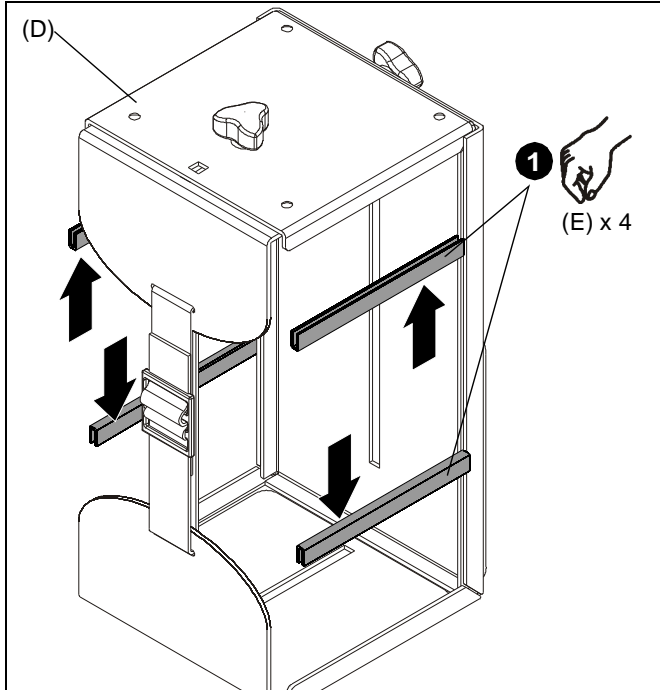

Figure 1
1. Place four strips of protective rubber edging (E) over the sharp edges located on the top and bottom of the CPU mount (D). (See Figure 1)